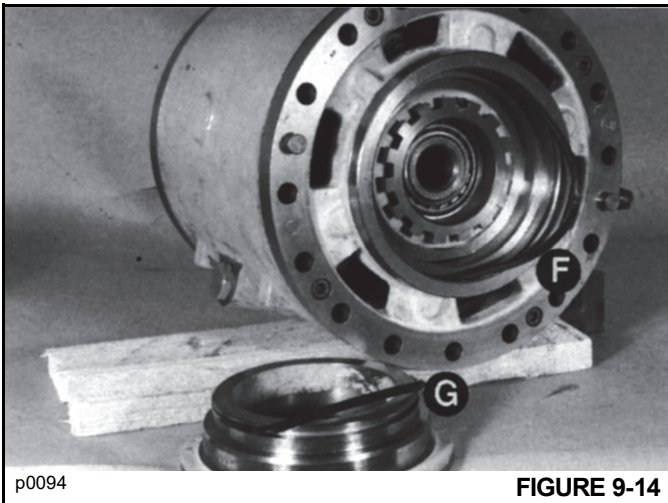

FIGURE 9-14
11. Remove and discard seals **F** and **G** Figure 9-14. Inspect the housing for damage and scoring. Nicks or cuts in the seals may be responsible for loss of brake fluid.
1. Install new seals **F** and **G** Figure 9-14. Make sure they seat squarely in their grooves.